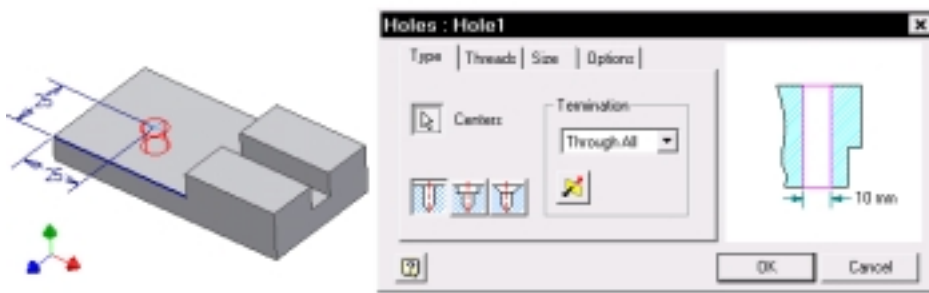

Figure 3-7
7. Refer to Figure 3-7, place a through hole with a diameter of 10 mm.